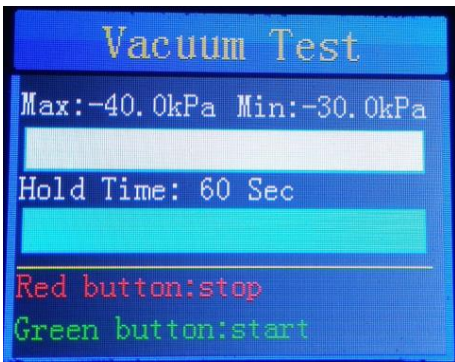

Figure 6
4. Enter into the test page (Figure 6, Figure 7) and press the green button to start testing.